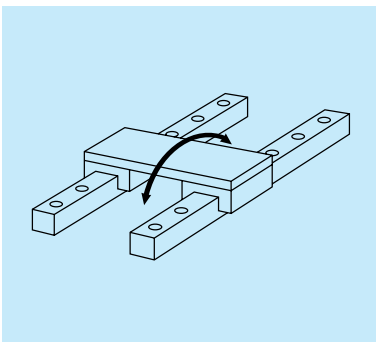

Fig. I-3-5 Pitching direction
**(4) Selection based on the moment load per ball slide**
- In cases shown in Fig. I-3-5 to •6, •7, it is necessary to consider the moment load applied to the ball slide.